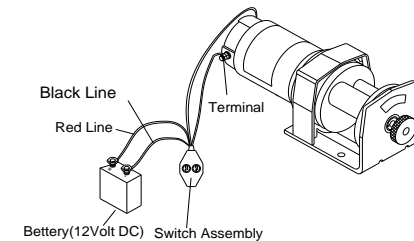

Fig.5
2. Route the two couple of lines from the switch to the motor and battery respectively. Connect the red line to the positive (1) terminal and the green (or black) line to the negative (2) terminal of the battery. (See Fig. 5).